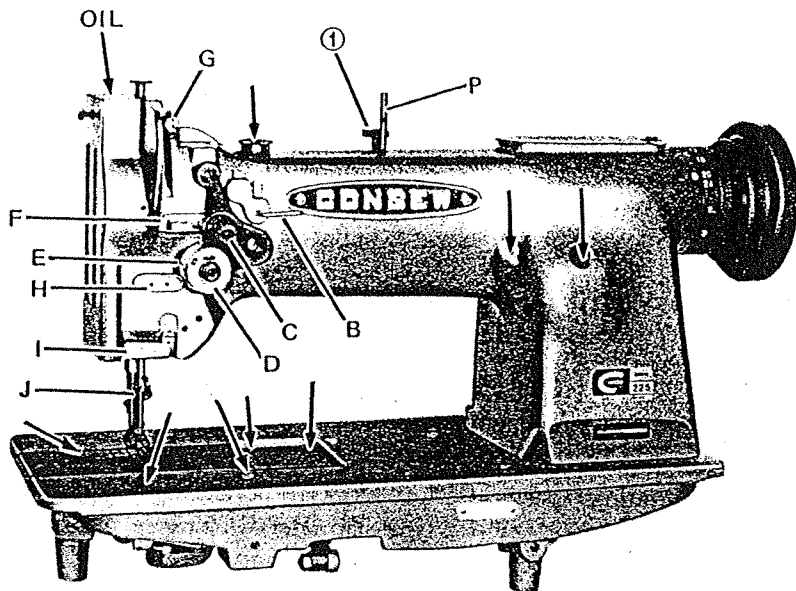
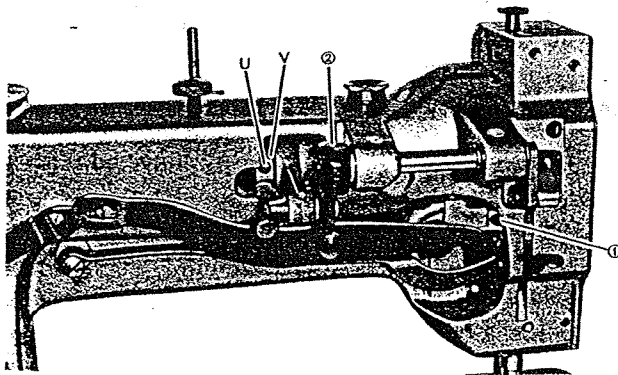

Fig. 1
Fig. 6
Do not operate the machine, even if only for testing, unless it has been properly oiled at every spot requiring lubrication. The arrows on the following illustration indicate these spots. (Fig. 1, Fig. 2-A, 2-B, 2-C, 2-D).
From the thread stand lead the thread from back to front through the lower guide hole in pin "P" on top of the machine arm, then again from right to left through the upper guide hole in this pin. Pass thread in weaving fashion through the three holes in guide "B", and from right to left over and between the tension disc "C". Now pull thread downward and from right to left beneath and around thread controller "D"; continue to pull thread upward against the pressure of the wire spring into the fork "E" in the thread controller. Guide upward through thread guide "F" and from right to left through the eye in take-up lever "G", down through thread guide "F" again and then through "H", "I" and "J" from left to right through the eye of the needle. (See Fig. 1)
Loosen the screw (①, Fig. 1) sufficiently, raise the presser bar lifter and loosen the set screw (②, Fig. 6).
A. Lower the presser bar lifter, holding the vibrating presser foot loosen the hexagon screw (②, Fig. 6) and move the presser foot up or down as may be required.
This is due to the reason that the vibrating presser foot must tightly hold the goods while the needle is passing the goods for avoiding irregular stitches. To adjust this, set the lift of the alternating presser feet to equal, loosen the two screws (U, Fig. 6) and adjust the rotating position of the cam (V, Fig. 6) faster or slower as may be desired, and tighten the screw.